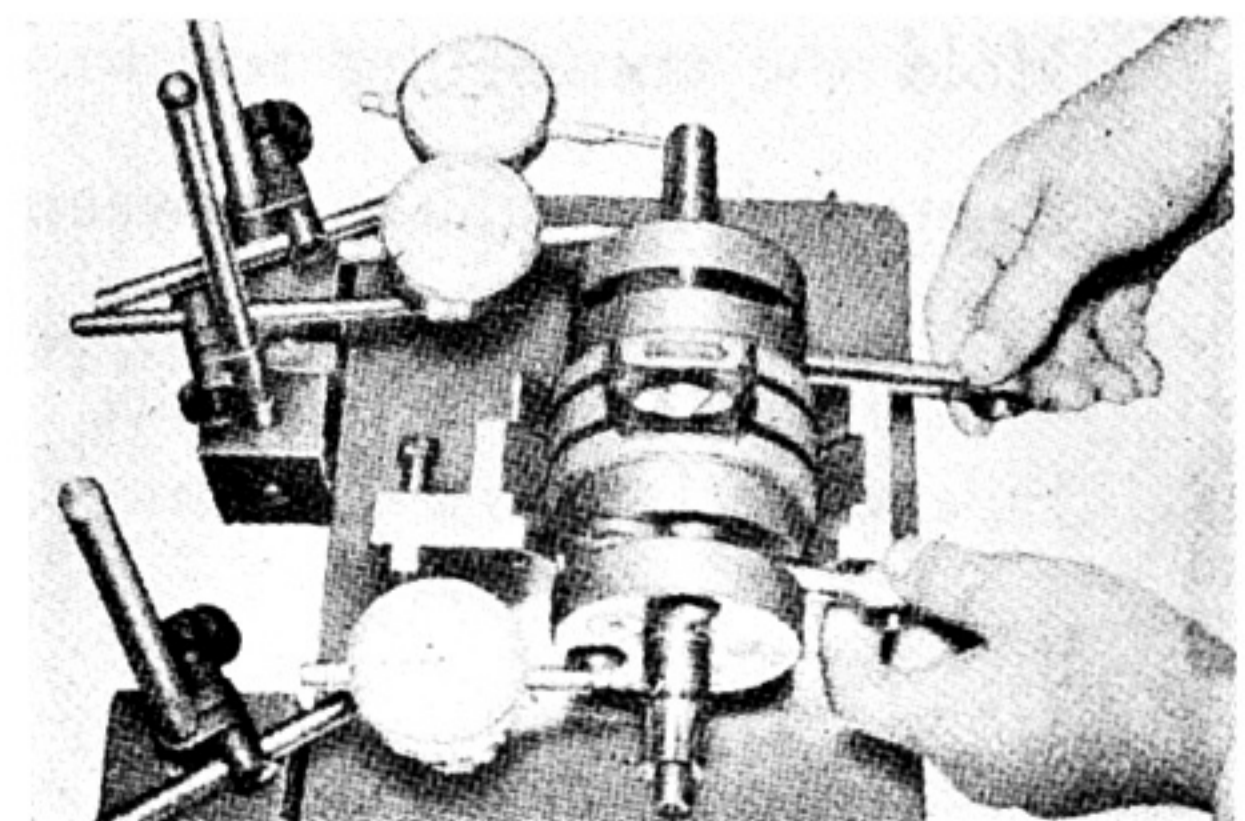

Fig. 3-16-19
- a. Place the crankshaft ass'y on the or in V blocks, and check for alignment. (Fig. 3-16-19)